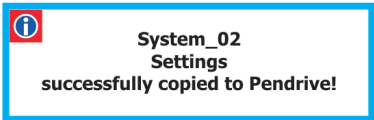

Fig. 75
- 3 Confirm loading by pressing **OK**. A confirmation message is displayed once setting is completed (Fig. 75). Press **ESC**.